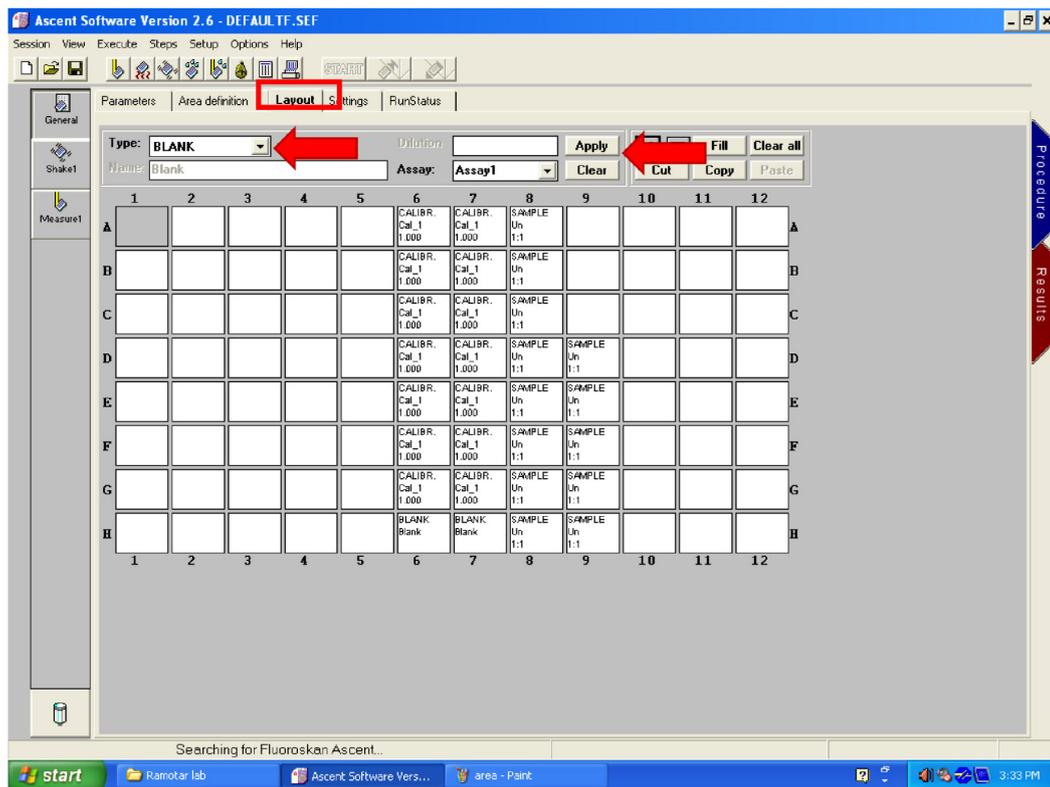

Figure 29. Set the layout
12. Click on 'Layout' (Figure 29). Clear any layout on the screen by dragging the mouse over the wells then click on 'Clear' (Figure 29). Select 'BLANK' in 'Type' (Figure 29) then select the wells containing your untreated samples. Click on 'Apply' (Figure 29).
13. Change 'Type' to 'SAMPLE' and select all the wells containing treated cells. Click on 'Apply' (Figure 29).